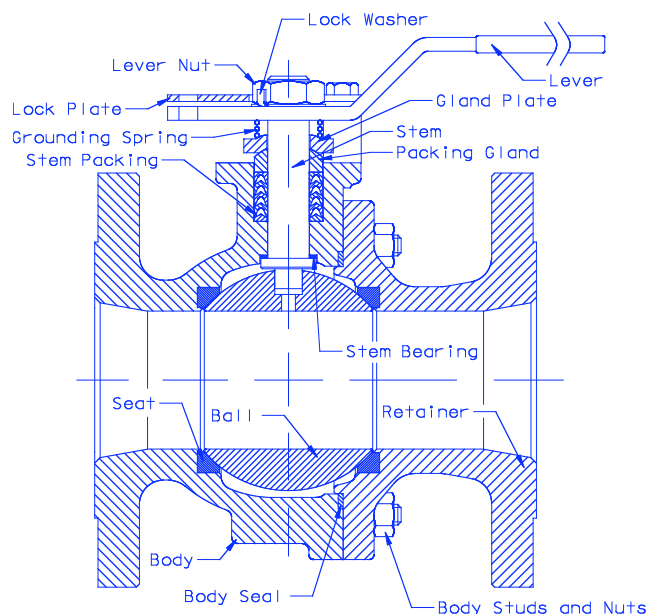

Figure 1: Typical Standard Port Valve Assembly
| <p>Limitations</p> <ul style="list-style-type: none"> Conditions supporting no greater than Category III valves. Valves are not to be used in safety functions such as safety loops or separating incompatible fluids. For gases and liquids in Groups 1 & 2. In-line service only, not recommended for end of line service. Service to be compatible with the materials of construction. Prior to selection it is the user's responsibility to determine that the valve is appropriate for the intended application. Application not to allow corrosion $>.002"/\text{year}$ ($.05\text{mm}/\text{year}$). The possibility of material deterioration in service and need for periodic inspections is the responsibility of the user. Mechanical supports are not to be welded directly to the valve, however may be fitted to the associated piping. It is the piping system designer's responsibility to implement appropriate protection measures to minimize reaction forces and moments, which result from supports, attachments, piping, etc. Laws of the state must be observed as they apply. In service inspections may be required by the national authorities of the country where the valve is installed. Some National/Local authorities may require periodic hydrostatic testing. Only use Conbraco replacement parts. On-off service only (not to be used for throttling). Valves are primarily intended for industrial use. | <p>Installation</p> <p>Proper valve selection is the first step in any successful installation. Refer to an "Apollo Ball Valve Binder", where applicable for application guidance or contact your distributor or the factory for more detailed assistance.</p> <p>WARNING: All installations shall be provided with pressure relief devices in accordance with the requirements of the Pressure Equipment Directive 97/23/EC. Proper installation prior to initial operation is the user's responsibility. Furthermore where an additional hazard can occur due to valve exposure to fire or other unexpected external heat source, a supplemental pressure relief device shall be installed to protect against excessive pressure. This device shall prevent the pressure from rising more than 21% above the maximum allowable working pressure.</p> <p>Pre-Installation Inspection</p> <p>Inspect the piping system prior to valve installation whenever possible, to insure that it has been properly flushed and cleared of construction and fabrication debris. The seating surfaces in soft seated valves are particularly susceptible to weld slag and sand blasting grit. Pipe scale, metal chips and other foreign materials should be avoided.</p> <p>Just prior to installation, remove each valve from its packing, install handle and other parts if shipped loose (see figure 1) and remove any end covers. Examine the flow bore for debris. All Apollo ball valves are shipped in the open position to prevent damage to the ball surface. Any grit or foreign matter must be removed. Do not install a damaged valve.</p> <p>It is also important to check for valve operation clearances. If necessary, valves can be installed at angles other than upright or vertical.</p> |
- Standard & Full Port only** Insert the retainer seat and place the retainer on the body. The ANSI flange bolting will always straddle the valve centerlines. See Figure 1. Loosely assemble the body bolting nuts.